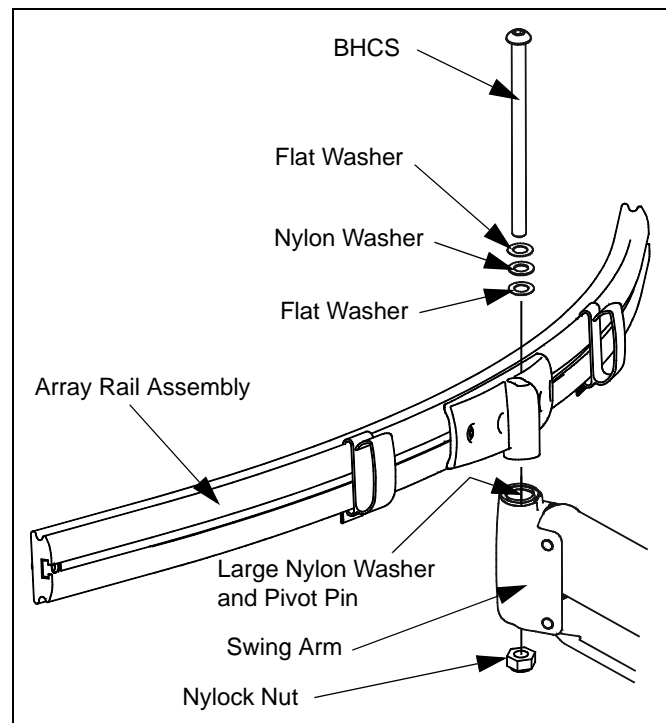

Figure 3: Install Array Rail to Swing Arm
1. Assemble one flat washer, one nylon washer, and a second flat washer onto button head cap screw. (See Figure 3)
2. Insert Nylock retaining nut into swing arm bottom. (See Figure 3)
3. Insert button head cap screw with washers through array rail, and down through large nylon washer and pivot pin. (See Figure 3)